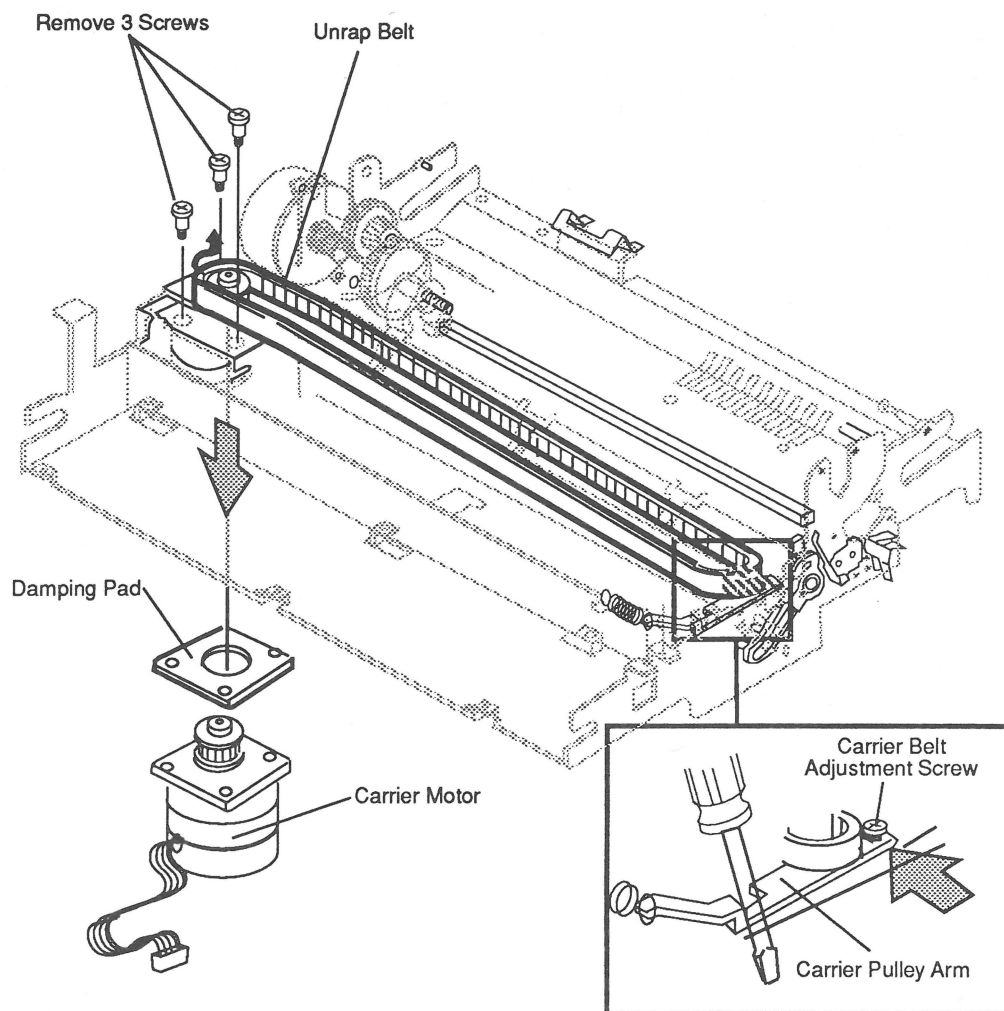

Figure 2-18 Carrier Motor
2. Loosen the carrier belt tension plate adjustment screw, but do not remove it (**Figure 2-18**).